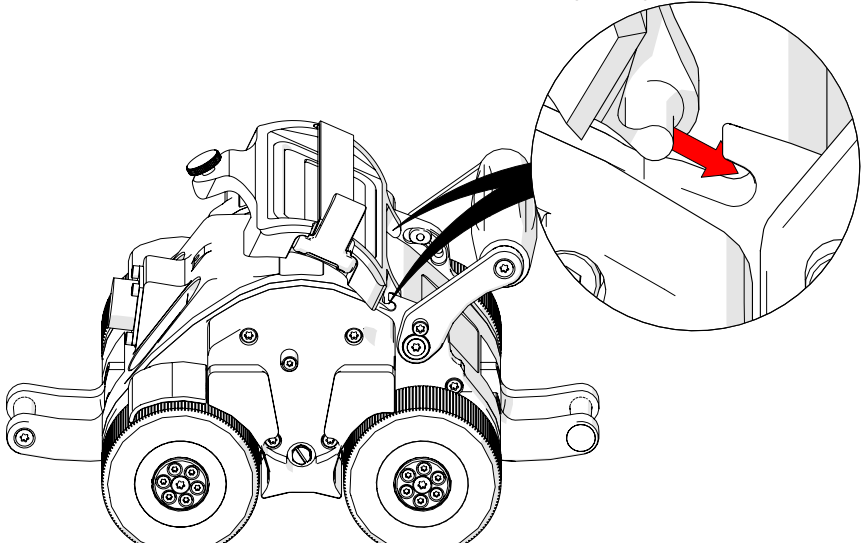

Fig. 63 - Fit backpack into notches
2. Place the front of the backpack into the notches found near the base of the handle (Fig. 63).